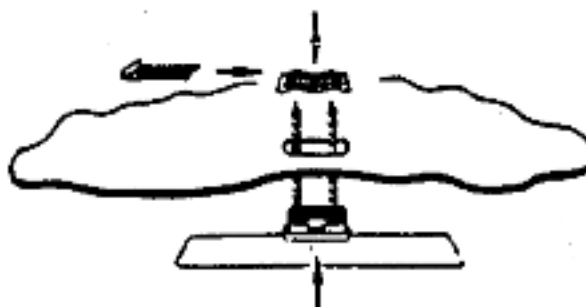

Figure 2
- The heater is fitted with a male socket and supplied with a plug which has to be connected to the alimentation wire as shown on Fig. 2.